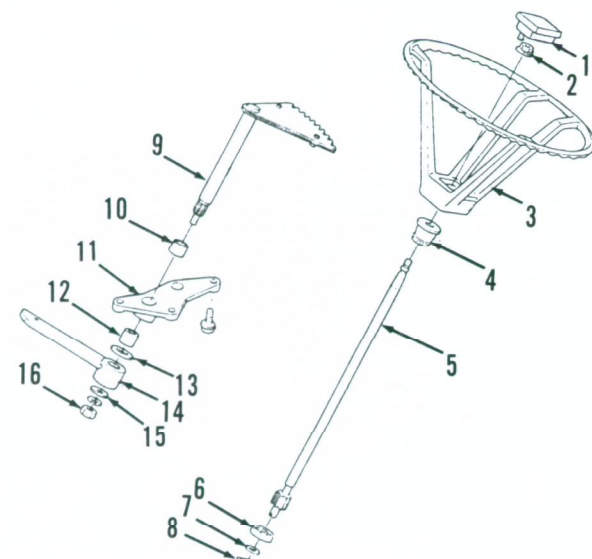

Fig. K3—Exploded view of steering gear assembly used on all tractors.
REMOVE AND REINSTALL. To remove steering gears, first raise seat and disconnect battery cables. Disconnect fuel hose from fuel filter, remove fuel tank mounting screws and remove fuel tank. Disconnect air inlet pipe from air cleaner, remove air cleaner mounting screws and remove air cleaner. Remove steering wheel pad (1—Fig. K3) and unscrew steering wheel mounting nut (2). Pull steering wheel off steering shaft (5). Disconnect drag link from pitman arm. Unbolt and remove pitman arm (14) from sector gear shaft (9). Withdraw sector gear (9) from support (11). Re-